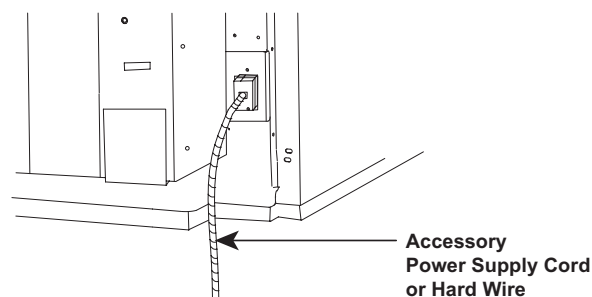

Fig. 15 – Power Connection
3. Connect accessory power supply cord or hard wire connector to unit connector. See Fig. 15.